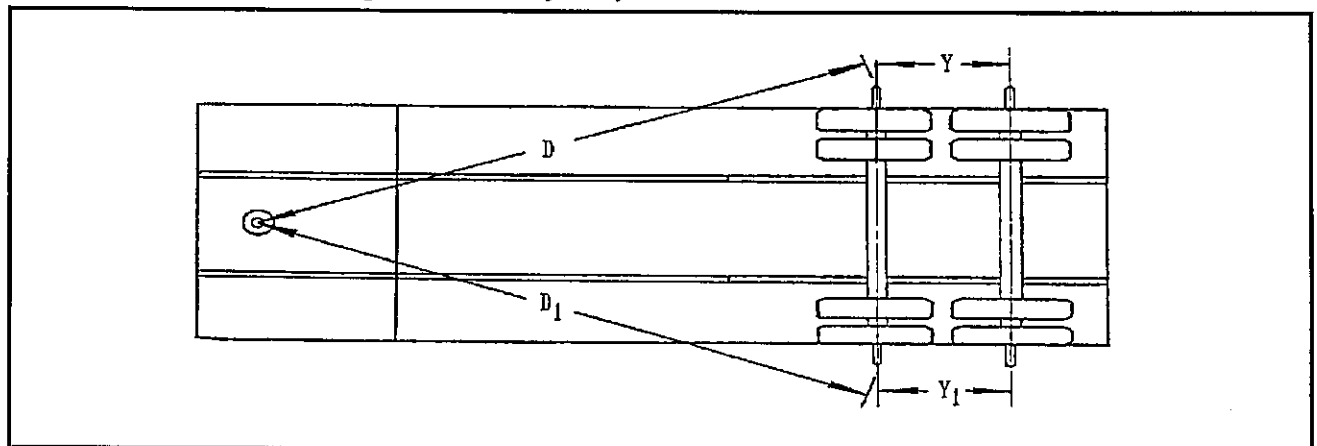

FIG. 6-12 AXLE ALIGNMENT CHECK
d. Measure (D) from the plumb bob to the center point on one end of the axle. Record this measurement. (See FIG. 6-12)
e. Measure (D₁) to the other end of the axle in the same manner as in step d. Record this measurement. (See FIG. 6-12)
d. Turn the axle alignment cap screws on the rear axle until the proper alignment to the front axle is obtained. When properly aligned, both ends of the rear axle should be an equal distance (Y and Y₁) from the front axle (See FIG. 6-12)
e. Now align the rear axle to the front axle in the same manner using the torque arm for adjusting. The rear axle should be exactly parallel to the front axle. In other words, dimensions Y and Y₁ in Fig. 6-12 should be the same.
c. Using the adjustable torque arm, align the center axle to the front axle so that dimensions Y and Y₁ (See FIG. 6-12) are equal.
d. Align the rear axle to the front axle using the same procedure. The rear axle should be exactly parallel with the front axle. In other words, the dimensions Y and Y₁ in FIG. 6-12 should be the same.